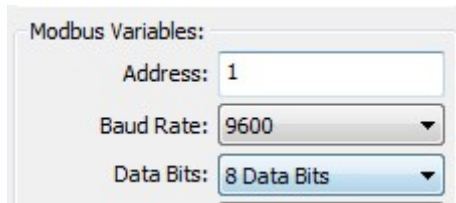

Figure 5.45 Modbus Data Bit Selection
1. Select "Detailed Design"->" Modbus variable "-> the drop-down box corresponding to"data bit", select the supported data bit number of 7 or 8 bits, as shown in Figure 5.45